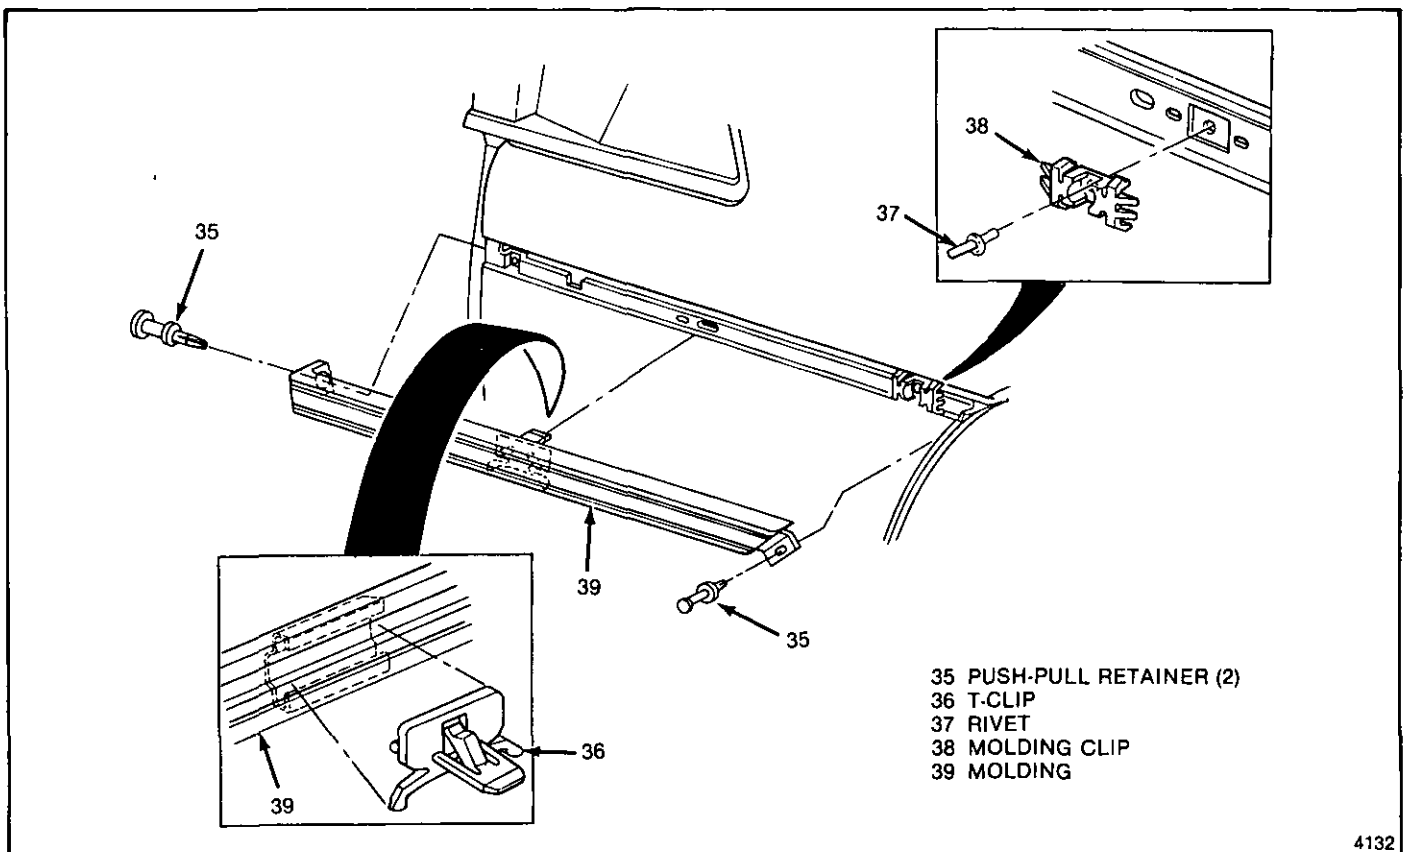
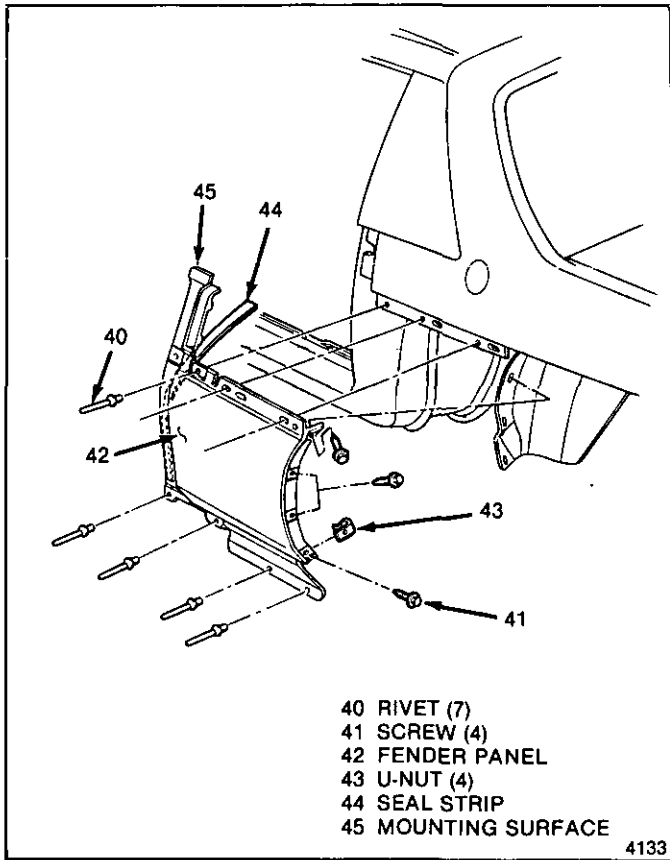

Fig. 15-Rear Fender Finish Molding
Fig.16-Rear Fender Panel Assembly
#### ↔ Remove or Disconnect (Figure 15)
3. Rivet (37) and molding clip (38)
4. Molding (39)
**↔ Install or Connect (Figure 15)**
1. Molding clip (38) and rivet (37) to body
2. T clip (36) to molding (39)
3. Molding (39)
4. Two push-pull retainers (35)
**↔ Remove or Disconnect (Figure 16)**
3. Seven rivets (40)
4. Fender to wheelhouse panel screws (41)
5. Fender panel (42)
6. U nuts (43)
7. Seal strip (44) from fender panel
**↔ Install or Connect (Figure 16)**
1. Apply adhesive to seal strip and fender mounting surface (45) before installation.
2. Seal strip (44) to fender panel
3. U nuts (43) to fender panel (42)
4. Fender panel (42)
5. Fender to wheelhouse panel screws (41)
6. Seven rivets (40)